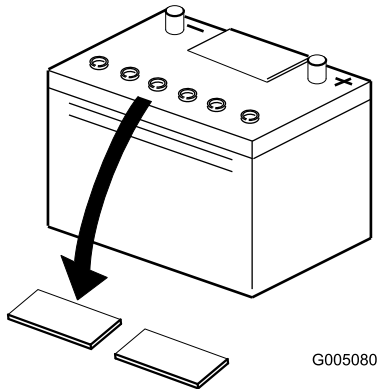

Figure 4
2. Clean the top of the battery and remove the vent caps (Figure 4).